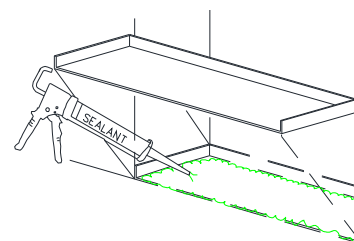

Figure 5:
- Secure the sillpan to the floor with glue. Position sill pan as necessary to allow for proper installation of frame assembly (Figure 5).